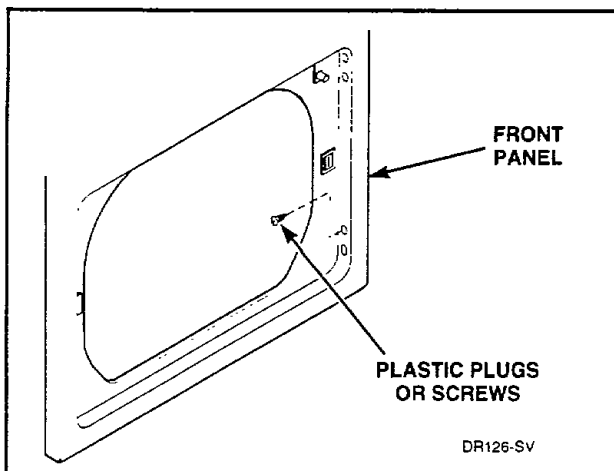

Figure 20
- h. Remove plastic plugs (or screws) from left side of the door opening of the dryer front panel and place them into holes on right side, *Figure 20*.